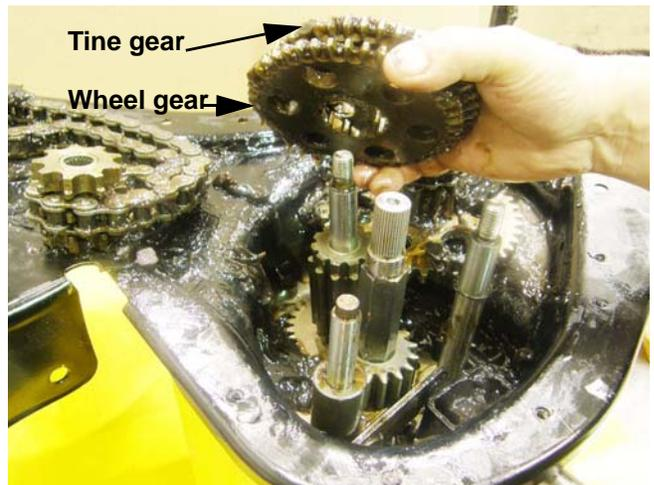

Figure 5.65
6. Lift the paired wheel and tine gears, along with the washer that fits between them off of the main shaft. See Figure 5.65.